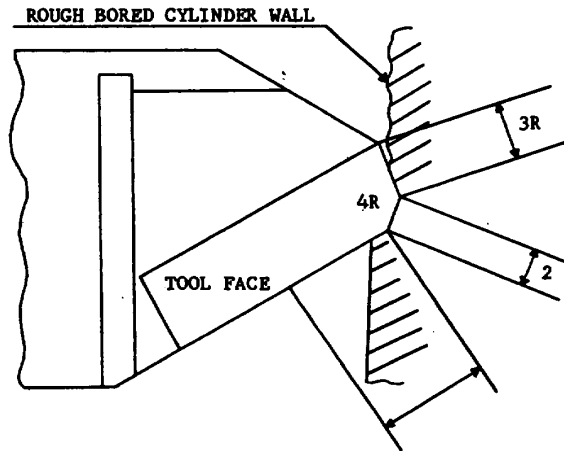
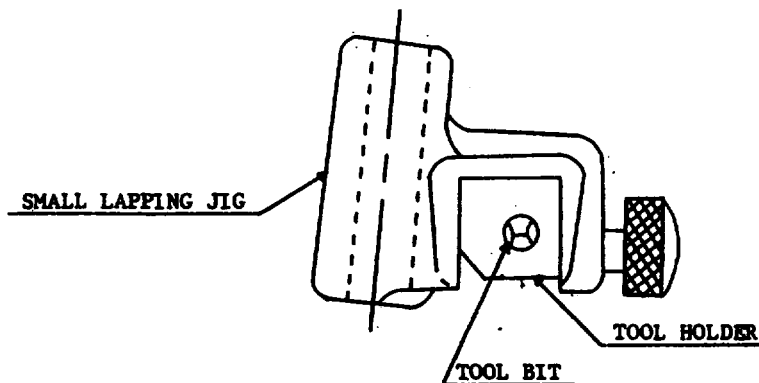
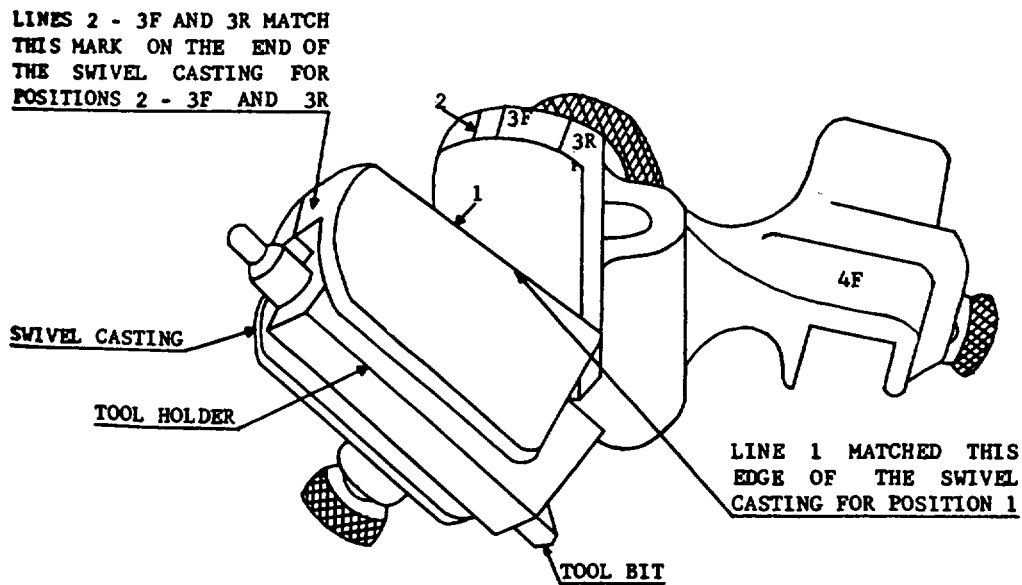
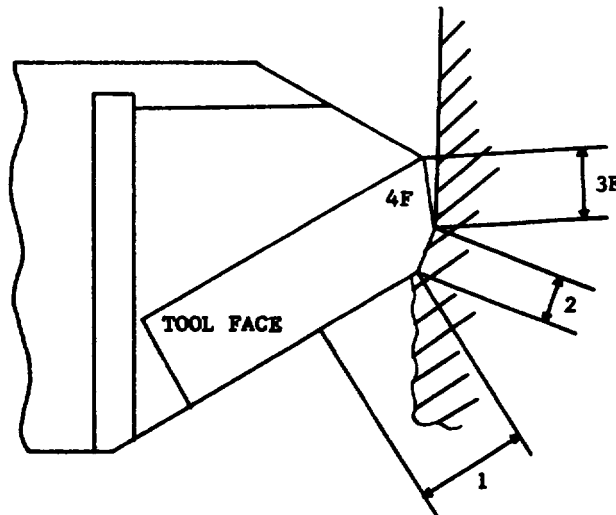

FIGURE 5.
FIGURE 6.
FIGURE 7.
FIGURE 8.
Figures 5 and 8 show the tool bit (greatly enlarged) in the roughing and finishing operations of boring as seen when looking directly toward the tool
On the roughing tool, figure 5, a part of portion 1 and all of portion 2 remove the metal in boring and are, therefore, the parts of the tool that wear must be reconditioned. The lapping operations will be as follows:
- 1 - The first operation is to lap the tool face, figure 5, by using the small lapping jig shown in figure 6. Lap only until you have removed all built-up material from the face of the tool.
- 2 - Then place the tool holder in the large lapping jig as shown in figure 7 and set the swivel casting that holds the tool to position 1 as illustrated. Lap in this position until portion 1, figure 5, is smooth.
- 3 - Shift swivel casting to position 2, figure 7, and lap portion 2, Figure 5, until portion 2 is in good condition.
- 4 - Shift to position 3R, figure 7, and lap portion 3R, figure 5, until 2 has the proper width. For roughing tool, this width should be eight thousandths for the average size bore.
On the finishing tool, figure 8, portion-2 is the part that produces the finish cut. The condition of portion 2, therefore, determines the final finish. The finishing tool bit is lapped only in the large jig and in positions 4F, 1, 2, and 3F.
- 1 - The first operation is to lap the tool face, figure 8, with the tool in position 4F of the large lapping jig. Lap only until you have removed all built up material from the face of the tool.
- 2 - Then place the tool holder in the large lapping jig as shown in figure 7 and set the swivel casting which holds the tool to position 1 as illustrated. Lap in this position until portion 1, figure 8, is smooth.